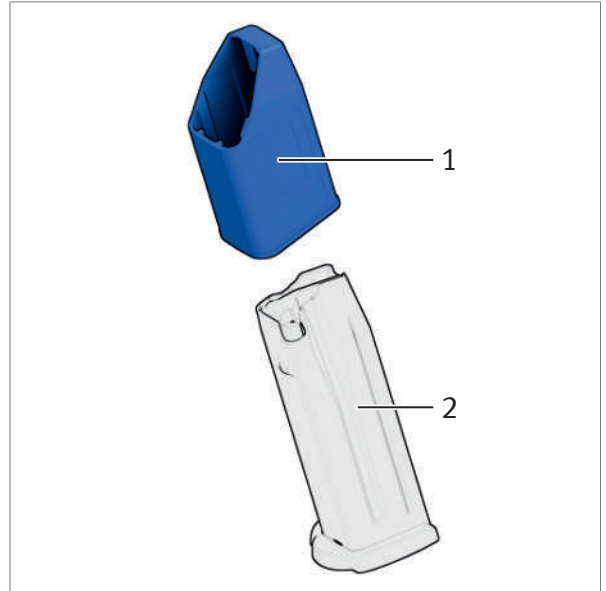

Fig. 49: Place loading aid on magazine
1. Place loading aid on magazine (Fig. 49).